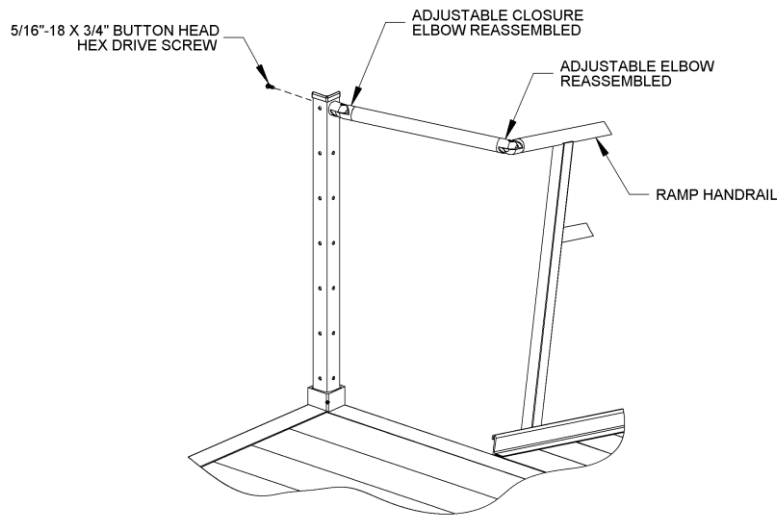

FIG. 6.5
- 6.2.3.1. Insert the adjustable elbow in the ramp handrail and install the closure elbow into the angle post (FIG. 6.5). Loosen both elbow assembly screws and position the round portion of the adjustable elbows so they are aligned with each other (FIG. 6.2).
- 6.2.4. Install a 5/16"-18 x 3/4" button head hex drive screw through the upper hole in the angle post into the 5/16"-18 round threaded insert (FIG. 6.5), then tighten all fasteners securely.